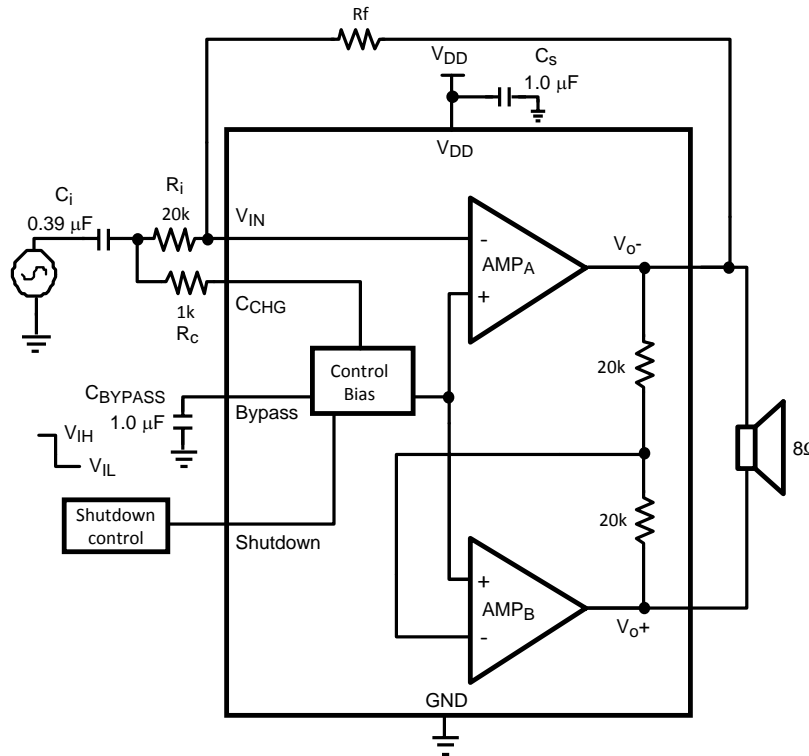

Figure 1. Typical Bridge-Tied-Load (BTL) Audio Amplifier Application Circuit
- (1) "Absolute Maximum Ratings" indicate limits beyond which damage to the device may occur, including inoperability and degradation of device reliability and/or performance. Functional operation of the device and/or non-degradation at the s or other conditions beyond those indicated in the *Recommended Operating Conditions* is not implied. The *Recommended Operating Conditions* indicate conditions at which the device is functional and the device should not be operated beyond such conditions. All voltages are measured with respect to the ground pin, unless otherwise specified.
- (2) The *Electrical Characteristics* tables list ensured specifications under the listed *Recommended Operating Conditions* except as otherwise modified or specified by the *Electrical Characteristics Conditions* and/or Notes. Typical specifications are estimations only and are not ensured.
- (3) The maximum power dissipation must be derated at elevated temperatures and is dictated by T_{JMAX}, θ_{JA}, and the ambient temperature, T_A. The maximum allowable power dissipation is P_{DMAX} = (T_{JMAX} - T_A) / θ_{JA} or the number given in *Absolute Maximum Ratings*, whichever is lower. For the LM4951A typical application (shown in Figure 1) with V_{DD} = 7.5V, R_L = 8Ω mono-BTL operation the max power dissipation is 1.42W. θ_{JA} = 73°C/W.
- (4) Human body model, applicable std. JESD22-A114C.
- (5) Machine model, applicable std. JESD22-A115-A.